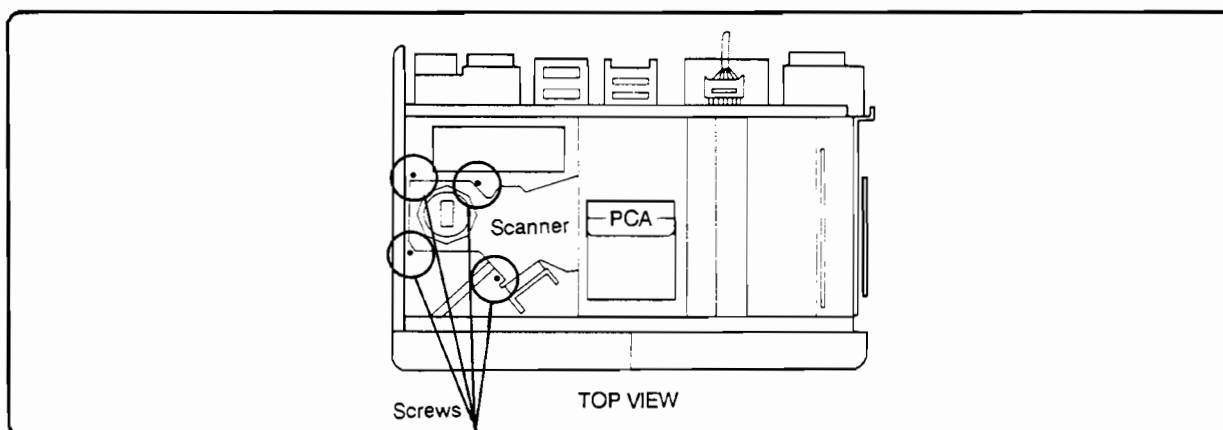

Figure 6-43. Laser/Scanner Mounting Screws
7. Being careful not to drop the rear screw through the wire routing hole, remove the four screws securing the Laser/Scanner Assembly (Figure 6-43).